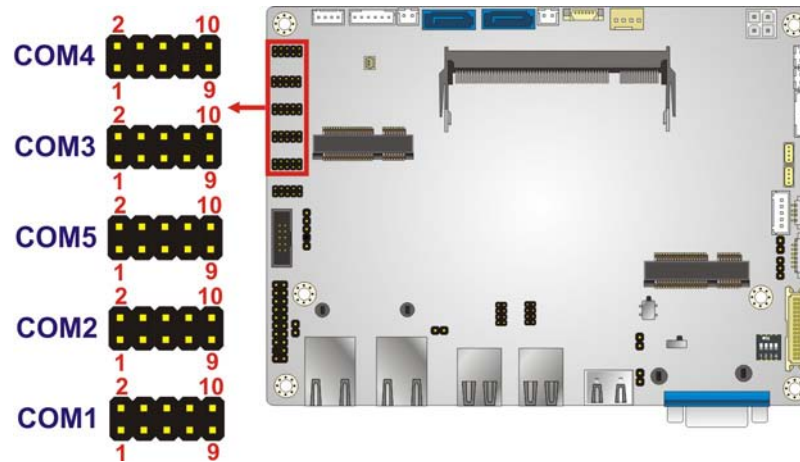

Figure 3-20: RS-232 Serial Port Connector Location
- CN Location:See **Figure 3-20**